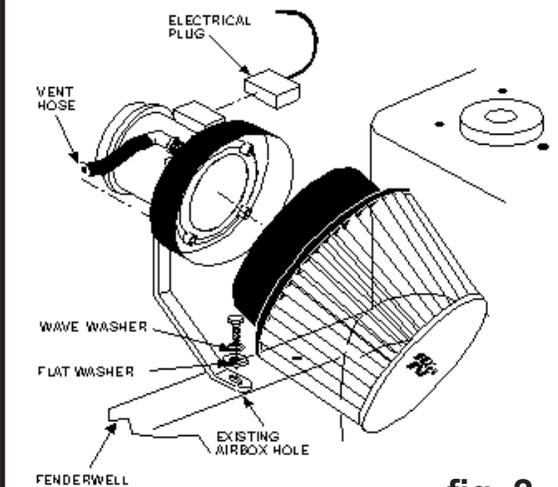

fig. 2
- 8) Install the complete assembly onto the intake hose and line up the mass-air bracket with the existing airbox hole (as shown in fig. 2) using the provided hardware.